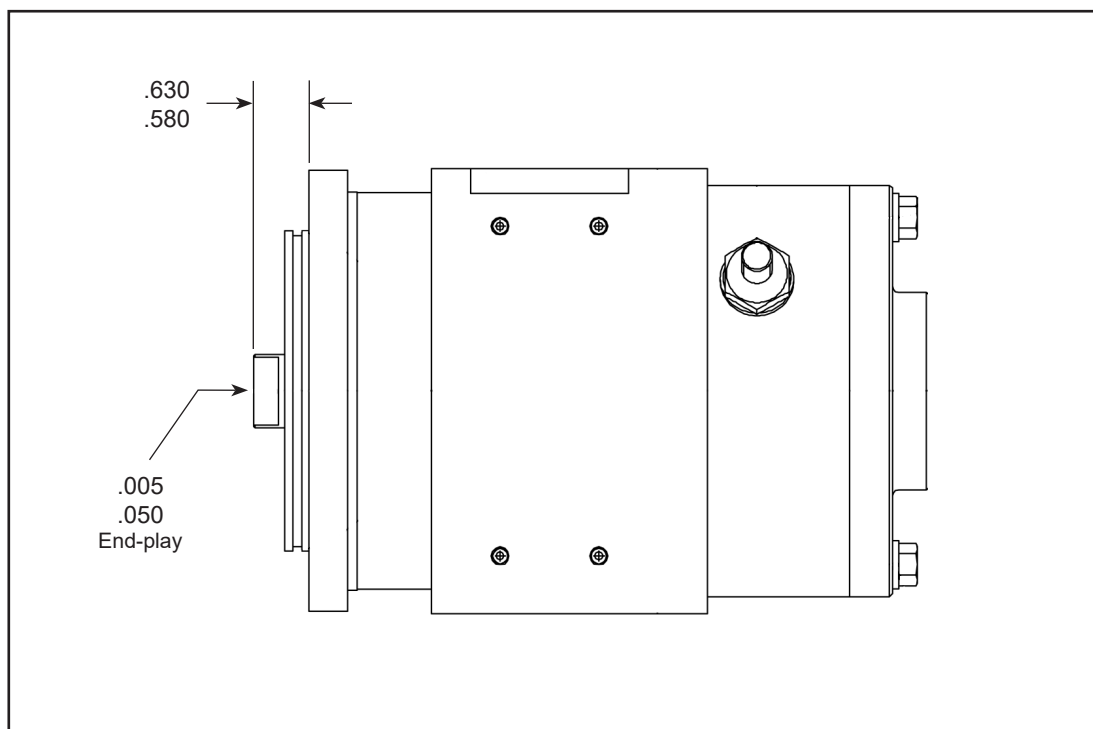

Figure 5-2 - Drive Shaft Position Check
A. Measure from the starter mounting flange to the drive shaft end. This will check the position of the drive shaft with respect to the housing for min. and max, Fig. 5-2.
- (1) Place the starter in a vertical position with the drive end up.
- (2) Place the starter in a vertical position with the drive end down rotate the shaft one full revolution.